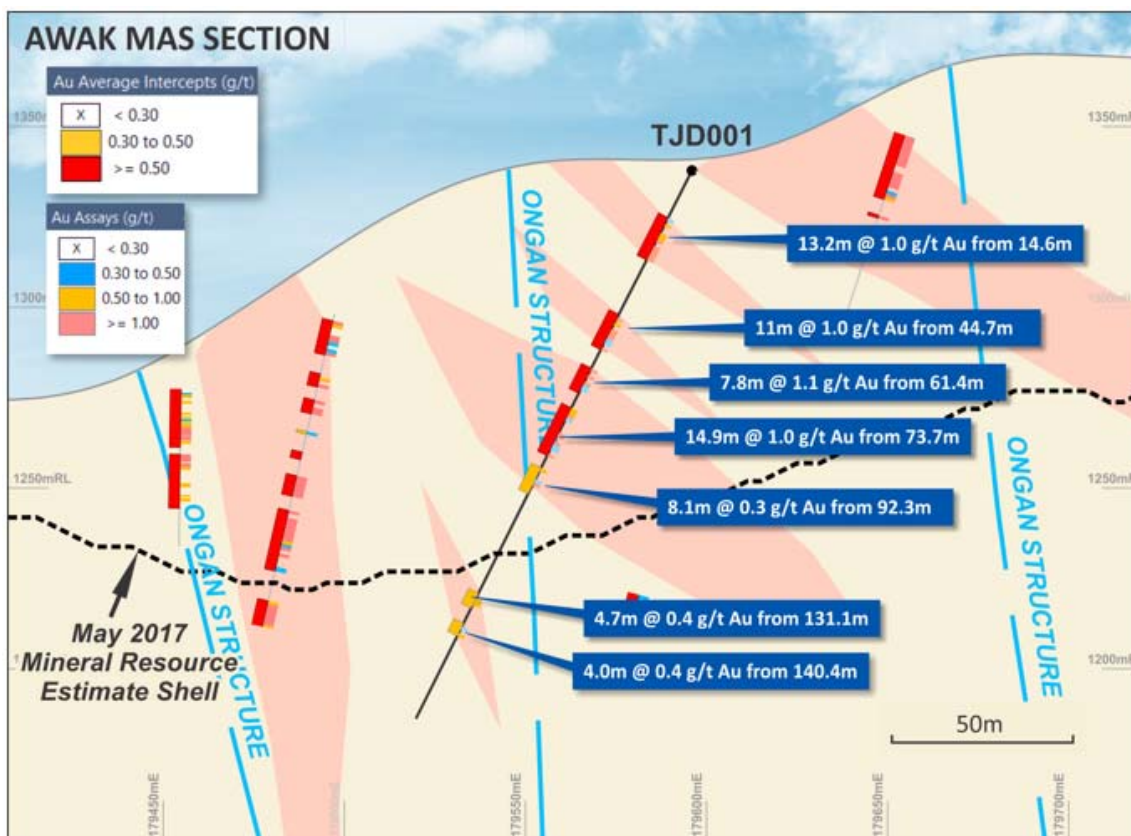

Figure 5: Cross-section of Awak Mas deposit showing mineralised intersections > 0.3 g/t Au in TJD001.
- TJD001 (Figure 5); 13.2 m at 1.0 g/t Au from 14.6 m, 11.0 m at 1.0 g/t Au from 44.7 m, 7.8 m at 1.1 g/t Au from 61.4m and 14.9 m at 1.0 g/t Au from 73.7 m; and